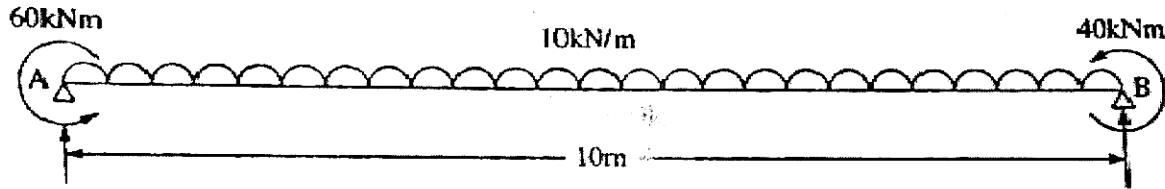

Fig. 2
- (b) Draw the SFD and BMD for the beam as shown in Fig. 2. Also find the point of contra-flexure if any. [6]